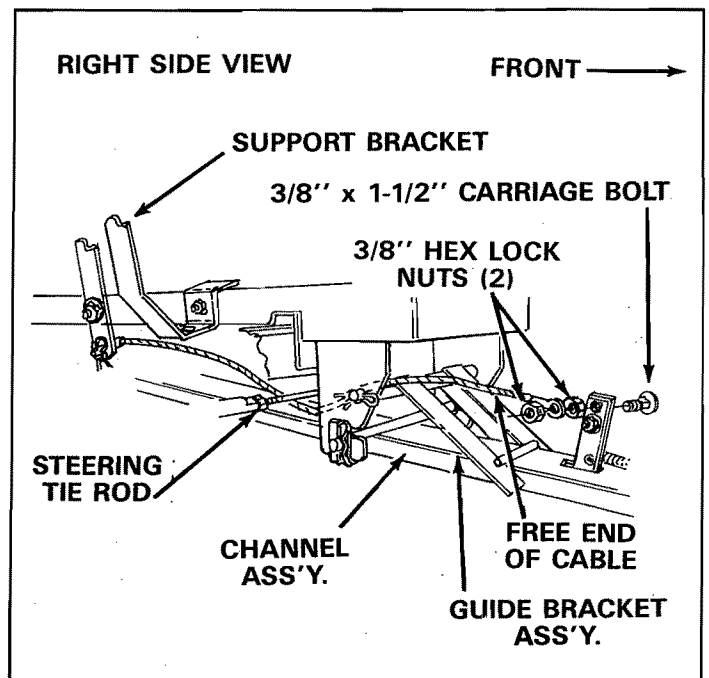

FIGURE 21
24. Thread cable toward front of tractor under steering tie rod and front axle and above guide bracket assembly. See figure 21.
25. Assemble one 3/8" x 1-1/2" carriage bolt into top hole in angle lock bars and tighten securely with one 3/8" hex lock nut. Place free end of cable over threaded end of carriage bolt and retain loosely with 3/8" hex lock nut. See figure 21.